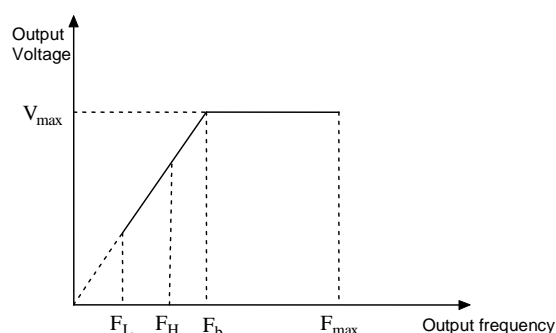

Fig.6-1 Characteristic parameters
Max output frequency is the highest permissible output frequency of the drive, as shown in Fig. 6-1 as F_{\max} ;
Max output voltage is the highest permissible output voltage of the drive, as shown in Fig. 6-1 as V_{\max}
Upper limit of frequency is the highest permissible operating frequency of the user setting, as shown in Fig. 6-1 as F_H .
Lower limit of frequency is the lowest permissible operating frequency of the user setting,as shown in Fig.6-1 as F_L .
Basic operating frequency is the Min. frequency when the drive outputs the max voltage in V/F mode, as shown in Fig. 6-1 as F_b
4. The Max. output frequency,upper limit frequency and lower limit frequency is as shown in Fig.6-1.